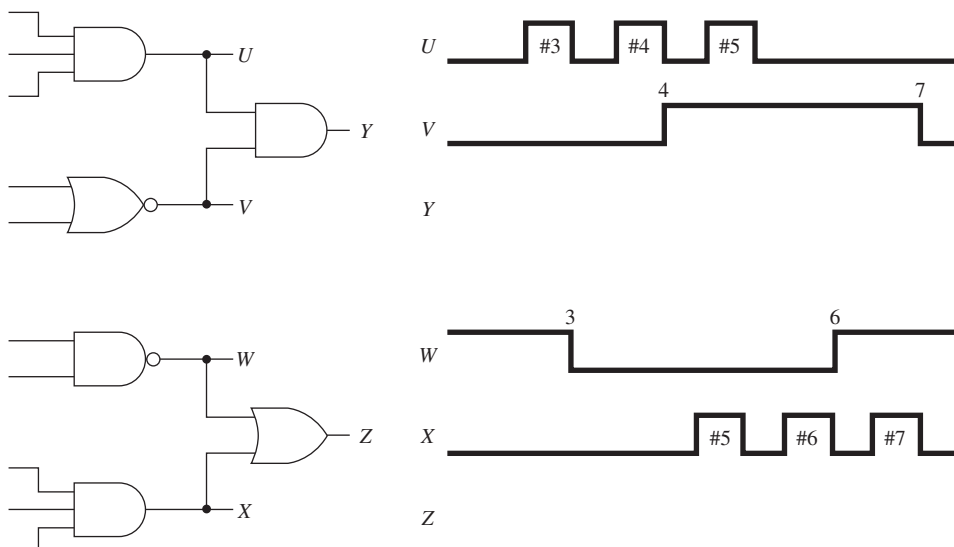

Figure P3-39
- C** **3-39.** Determine which lines from the Johnson shift counter are required at the inputs of the circuits shown in Figure P3-39 to produce the waveforms at U , V , W , and X .
- C** **3-40.** The waveforms at U , V , W , and X are given in Figure P3-39. Sketch the waveforms at Y and Z .